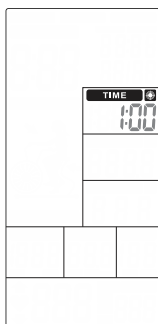

FIGURE 39
2. The TIME value will be flashing, press UP or DOWN to adjust the value (Figure 39) and press ENTER to confirm, meanwhile the buzzer will beep 1s and TIME lasting lighting up.
2. DISTANCE value will be flashing, press UP or DOWN to adjust the value (Figure 39) and press ENTER to confirm, meanwhile the buzzer will beep 1s and DISTANCE lasting lighting up.
2. DISTANCE value will be flashing, press UP or DOWN to adjust the value (Figure 39) and press ENTER to confirm, meanwhile the buzzer will beep 1s and CALORIES lasting lighting up.